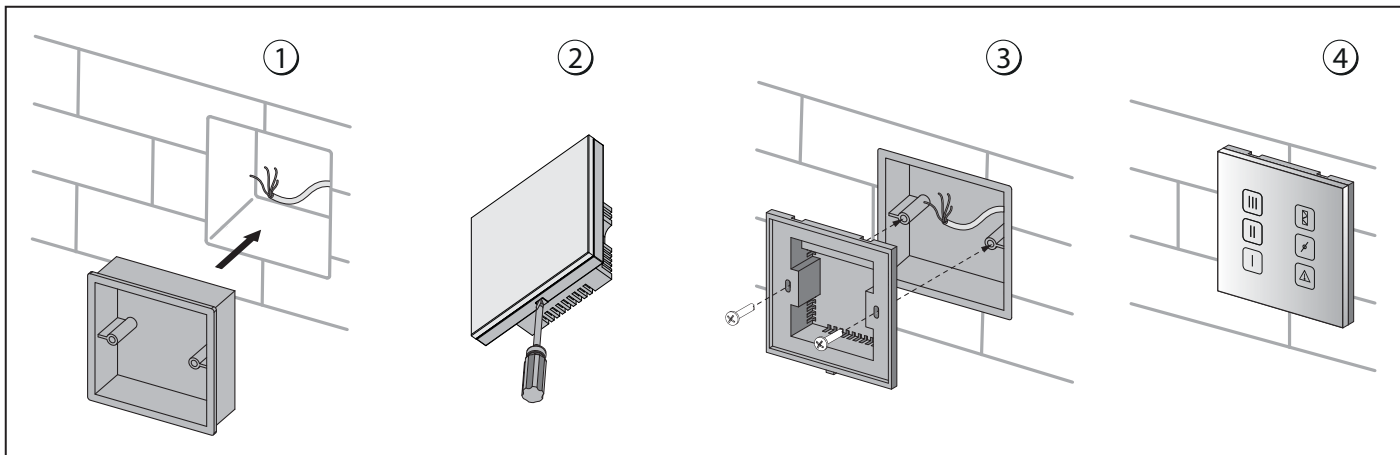
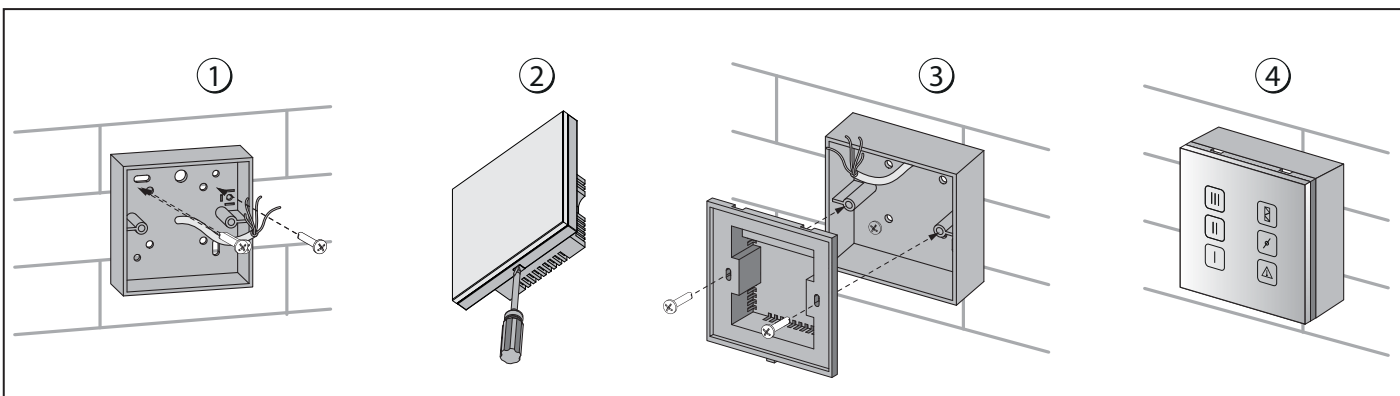

Fig. 14. S15 control panel wall flush mounting
Fig. 15. S15 control panel wall surface mounting
The control panel wall flush mounting is shown in Fig. 14. The control panel wall surface mounting is shown in Fig. 15. Connect the control panel to the air handling unit using a supplied connecting cable and fix it to the wall using one of the mounting boxes and the screws.
**Wall flush mounting** of the S15 control panel (Fig. 14):
**Wall surface mounting** of the S15 control panel (Fig. 15):